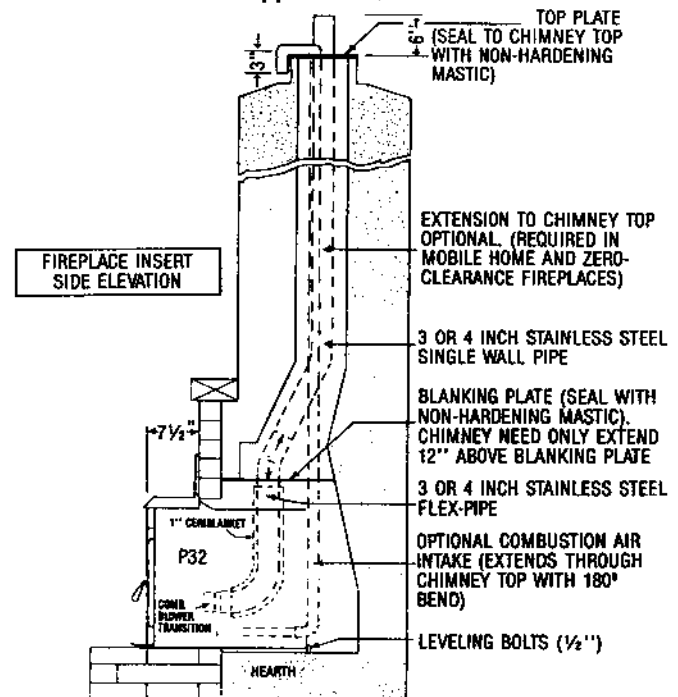

FIGURE 6
3. Top of chimney (see figure 6). All factory built fireplaces requiring outside air must use this method.
Insert Installations must be vented with 3" or 4" pipe (see figure 6). Pipe may be single wall stainless steel flexible pipe. Vent may terminate within chimney beyond a blanking plate or extend to the chimney top. See section 2.2 for outside air access information. In zero-clearance fireplace installations, when the fireplace opening is above the floor or raised hearth, the stove's front can be supported with the Breckwell P32 support skirt.